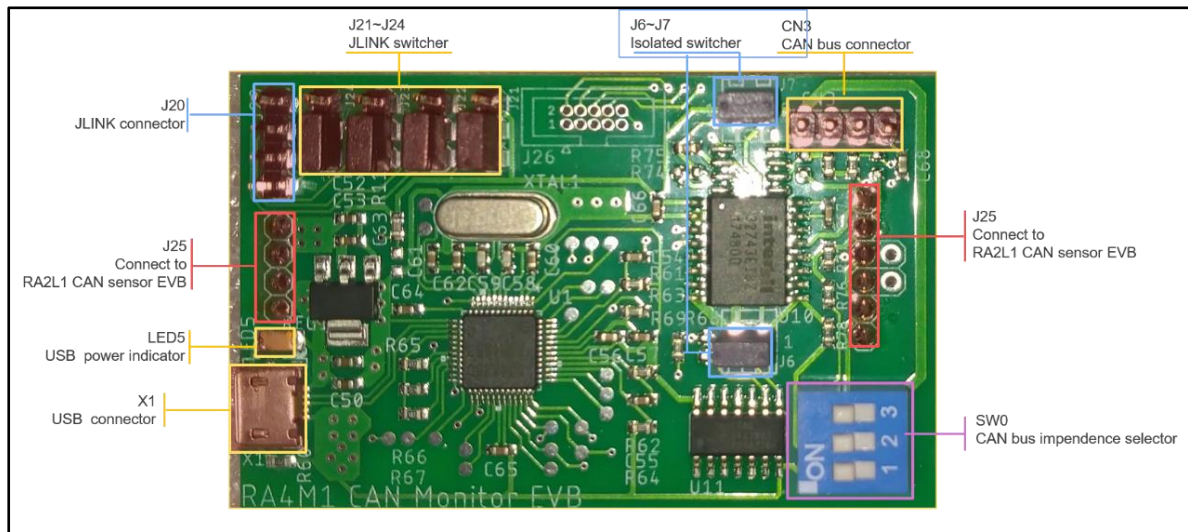

Figure 2-3 RA4M1 Monitor EVB Top View
2.3 Figure 2-3 is the top view of RA4M1 Monitor EVB.